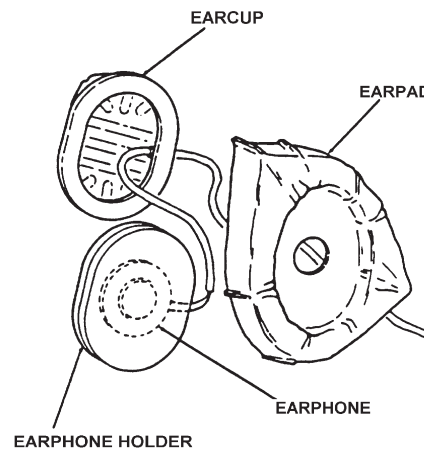

Figure 3-10. Earphone Inserted into Earphone Holder
- f. Referring to Figure 3-10, insert the earphones into the cavity of the earphone holders.